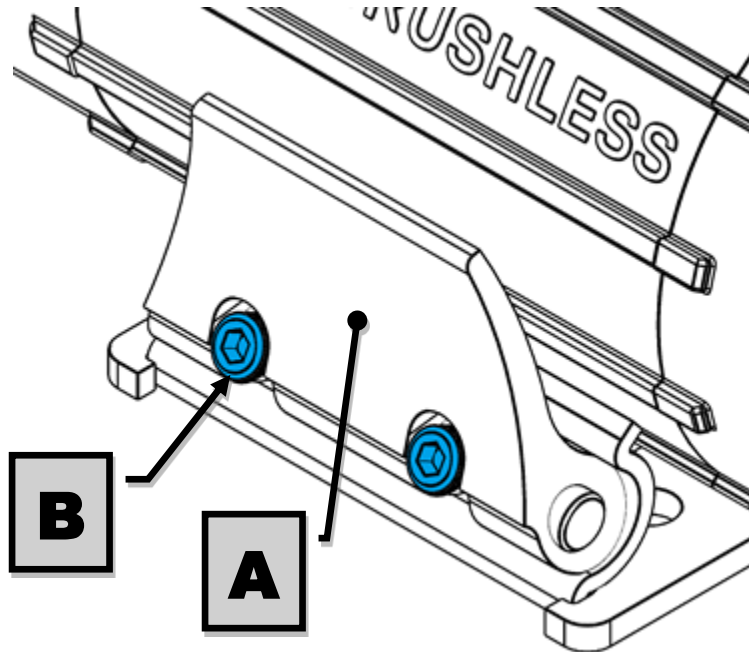

Figure 6. Adjusting the clamping force
- ☐ Assemble an aluminium washer onto the banjo bolt and insert through the banjo fitting. Assemble second aluminium washer and tighten into bulkhead fitting using a 14 mm [9/16"] spanner. (Fig.6.)